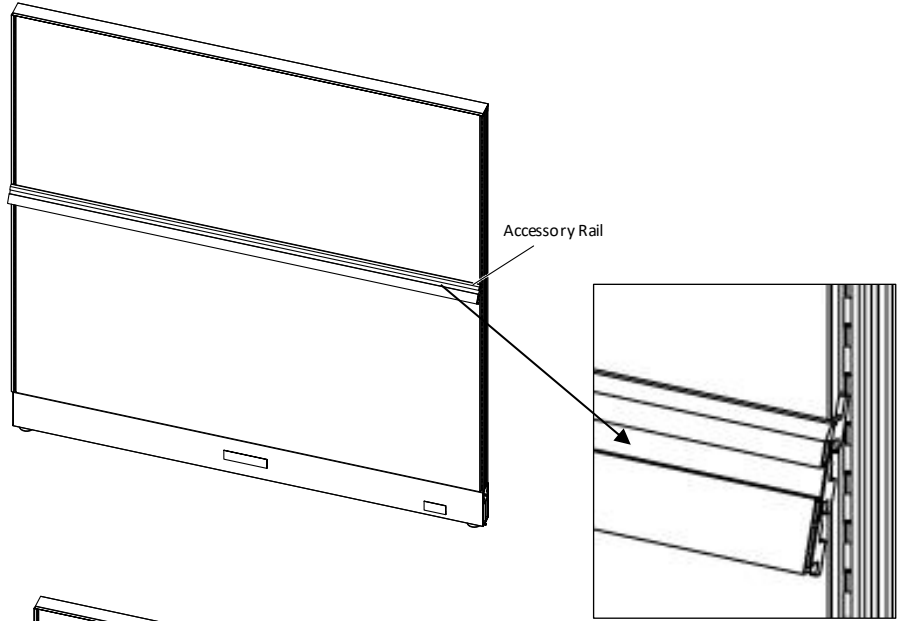

**Figure 1**
2. Place the upper hooks at their desired location into the slotted frame channel; lower the tackboard/whiteboard and place the other hooks then release them down and it will be engaged, (Figure 1).